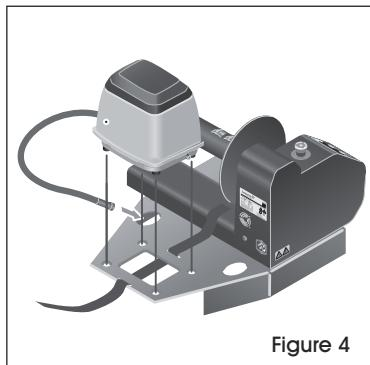

Figure 4
5. Thread the hook and loop strap through the slots on the metal tray. (See Figure 4) Place air pump on the back of the tray behind the machine by lining rubber feet on the pump up with holes in the tray kit.